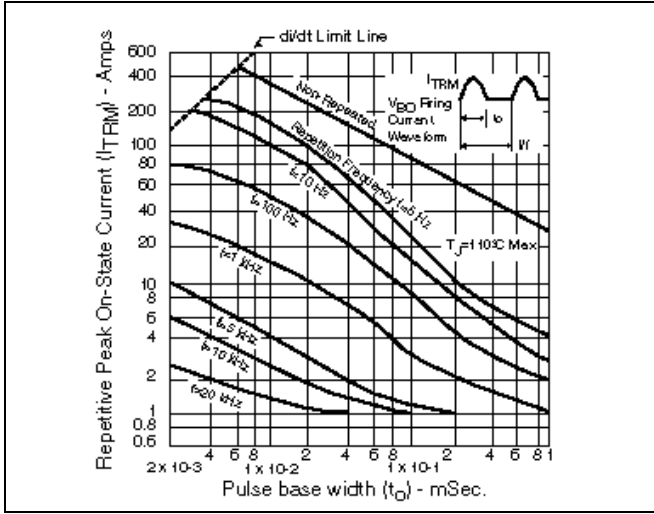

Figure 3 – Repetitive Peak On-State Current ( $I_{TRM}$ ) vs Pulse Width at Various Frequencies
- See Figure 3 for Repetitive surge current capabilities.